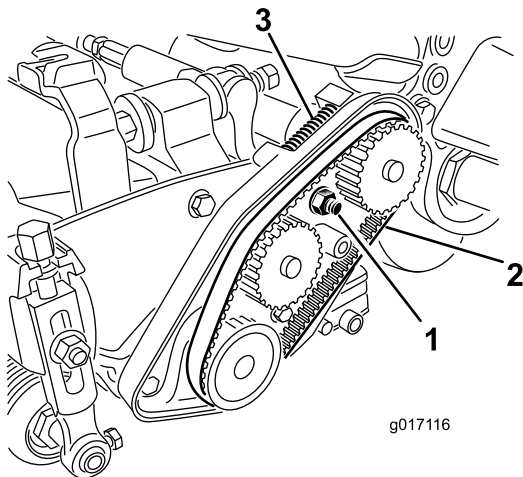

Figure 20
3. Loosen the bearing-housing nut (Figure 20).
5. Remove the belt (Figure 20).
12. Ensure that the compression spring is applying tension to the belt (Figure 20).